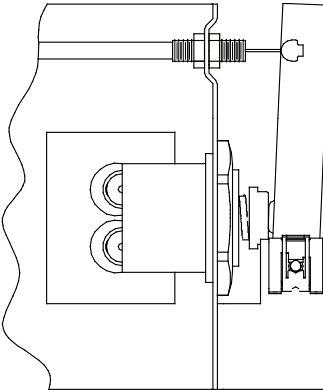

FIG. 11
6. Connect free end of operating cable to the valve-operating bracket in the freeze resistant box. Remove cable free play by adjusting the jam nuts on the ends of the operating cable. See Figure 11.